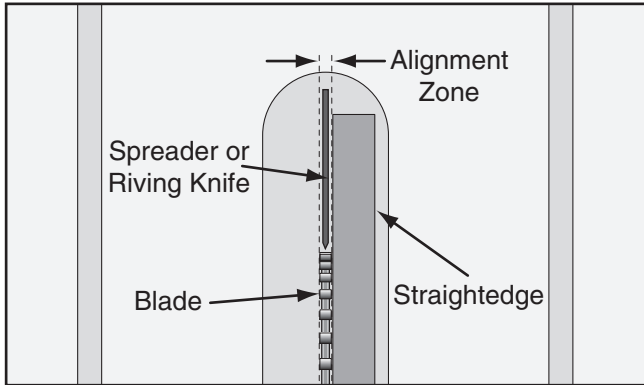

Figure 112. Spreader/ripping knife alignment zone.
- The spreader/ripping knife should be parallel with the blade along its length at both positions and should be in the "Alignment Zone," as shown in **Figure 112**.